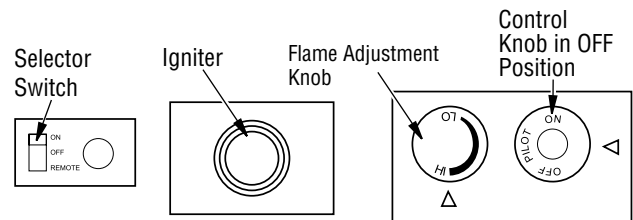

Figure 26 - Control Knob, Igniter Button and Remote Selector Switch
4. Press in and turn control knob clockwise  to the OFF position (see **Figure 26**).
5. Wait five (5) minutes to clear out any gas. If you then smell gas, STOP! Follow "B" in the safety information in column 1. If you don't smell gas, go on the next step.
6. Press in and turn control knob counterclockwise  to the PILOT position. Press in control knob for five (5) seconds (see **Figure 26**).
After lighting, let pilot flame burn for about one minute. Turn control knob to ON position. Adjust flame adjustment knob anywhere between HI and LO. Slide the selector switch to the REMOTE position (see **Figure 26**).